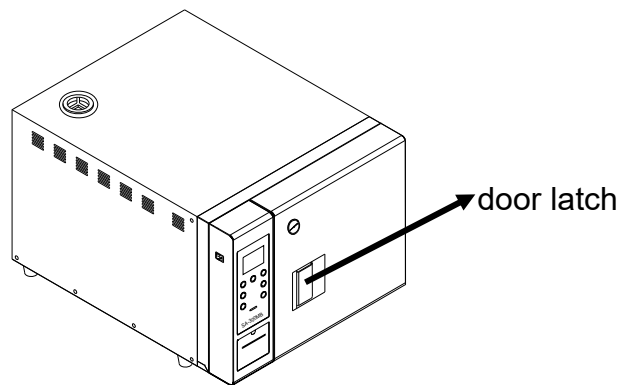

Figure 42
- D. Check the Pressure Gauge is reading ZERO, and then press the “unlock button”  to open the door latch shown in Figure 42.